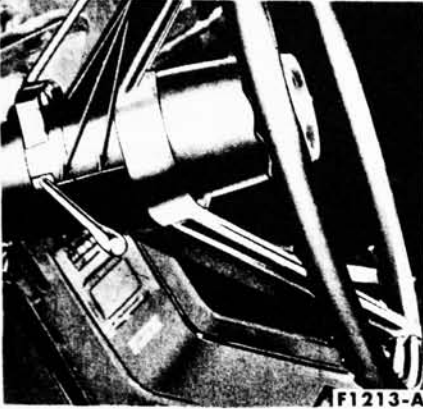

FIG. 2—Typical Straight-Ahead Position Marks
1. Drive the car in a straight line far enough to establish the straight-ahead position of the front wheels, and then mark the steering wheel hub and the steering column collar (Fig. 2). **Do not adjust the steering wheel spoke position at this time.** If the front wheels are turned at any time during the inspection, align the marks to bring the wheels back to the straight-ahead position.
Each rear wheel, hub and brake drum assembly is bolted to the rear axle shaft flange. The wheel and axle shaft assembly rotates in the rear axle housing. Two spring pads, integral with the axle housing, rest on two leaf spring assemblies. The axle housing is fastened to the center of the springs by spring clips (U-bolts), spring clip plates, and nuts (Fig. 2). Each spring as-